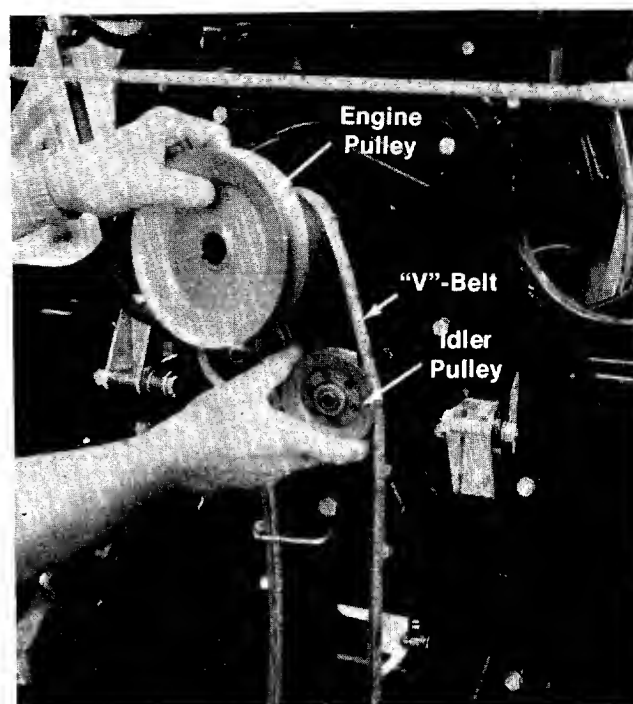

FIGURE 30.
12. Unhook the belt from the engine pulley. (See figure 30.)